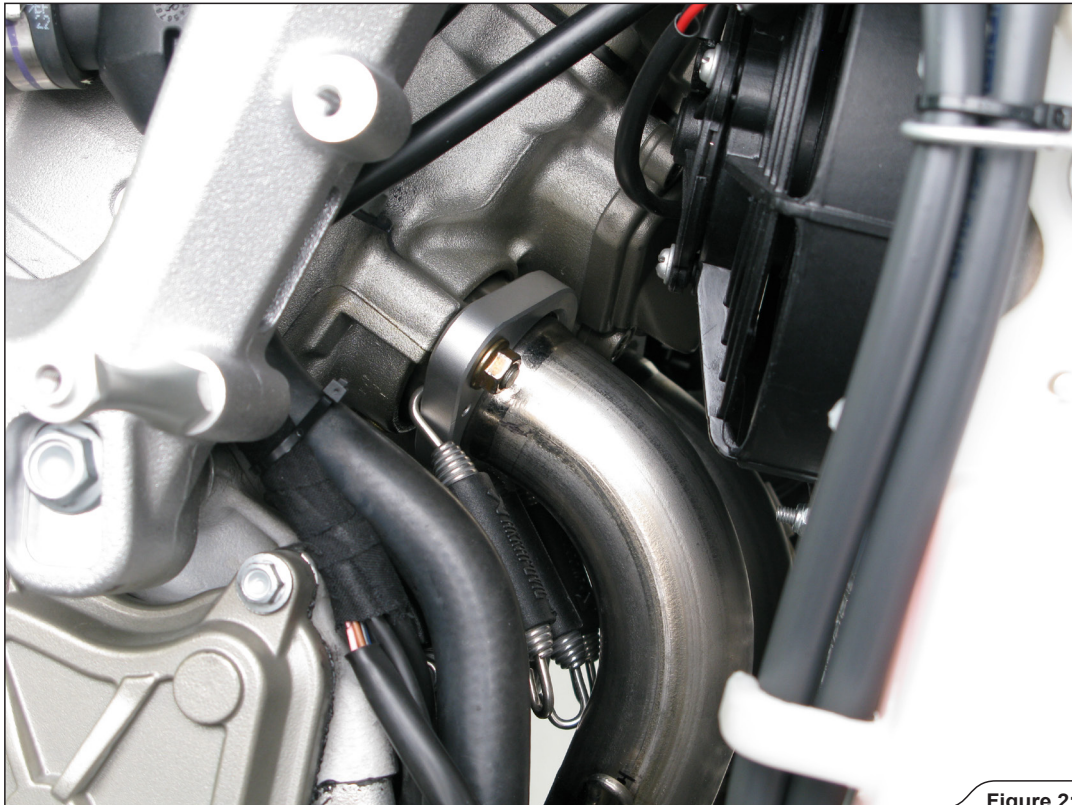

Figure 21
3. Insert the front and rear header tubes properly (Figure 21).